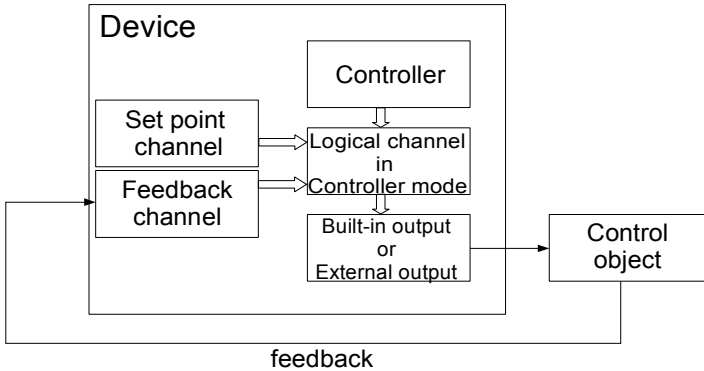
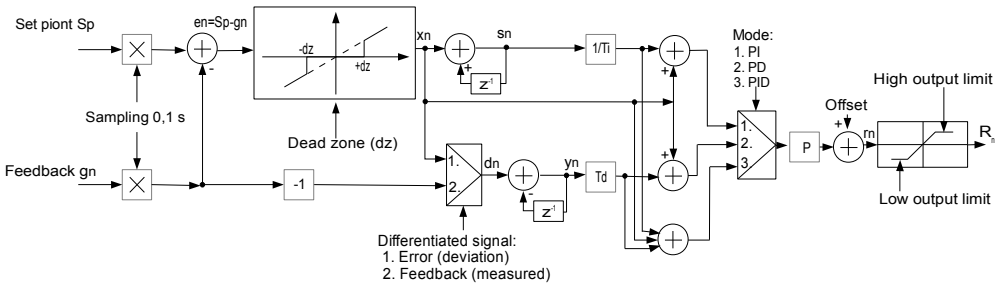

Fig. 7.108. Block diagram of the control loop of the object by MultiCon
Fig. 7.109. Block diagram of the Controller implemented in the device
- **Differentiated signal** - this parameter is available for **PD** and **PID** mode and allows the selection of the option (see **Fig. 7.108** and **Fig. 7.109**):
Note! After offset the output signal, the output value is limited to the range set in **Low output limit** and **High output limit** parameters (see **Fig. 7.109**),
Fig. 7.108 shows the block diagram of a control process of an object with the **Controller** implemented in the device. Set the setting of the selected Controller to be connected to the **Logical channel** operating in the **Controller** mode. In this **Logical channel**, select a **Set point channel** and the **Feedback channel**, which store the data required to control the object. Respectively, **Set point channel** contains a destination value of the process, while the **Feedback channel** includes the value of feedback coming from the object controlled. MultiCon uses data collected from these channels and the corresponding Controller controls the object.